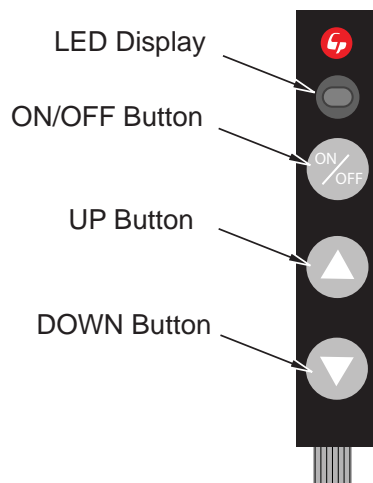

Figure 44 - Touch Pad Control
This touch control has only 3 buttons for controlling manually the flame of the appliance (see **Figure 44**).
1. To increase the flame level, press the up button (▲). A beep and a flash of the LED indicate that the system has accepted the order, and the flame will increase instantly (see **Figure 44**).
2. To decrease the flame level, press the down button (▼). A beep and a flash of the LED indicate that the system has accepted the order, and the flame will decrease instantly (see **Figure 44**).